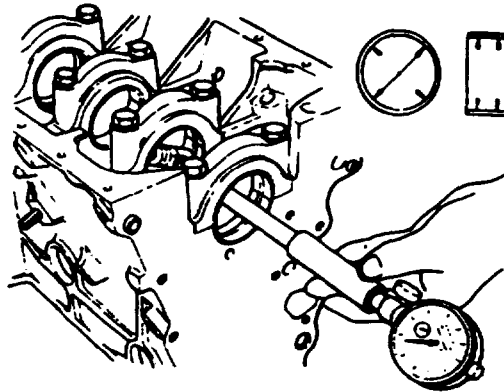

FIGURE 3-88. Crankshaft Journal and Bearing Clearance
- (2) Using inside dial indicator, measure bearing inside diameter, refer to FIGURE 3-88.
- (3) Standard clearance between bearing ID and crankshaft journal diameter (step e) is 0.0007 to 0.0025 in. (0.018 to 0.065 mm), with a limit of 0.0047 in. (0.12 mm).
- (4) If clearance exceeds limit, replace bearing and/or crankshaft.